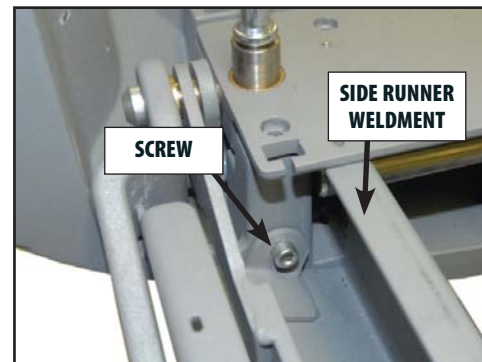

FIGURE 6.51
8. Hold the End Cap to keep it from dropping. Using a 5 mm Hex Wrench, remove the Screws inside each of the Side Runner Weldments securing the End Cap to the Runner Weldment and remove the End Cap. Refer to **Figure 6.51**.